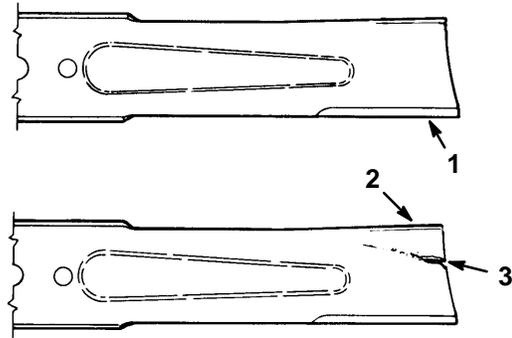

Figure 29
2. Inspect the cutting edges (Fig. 29). If the edges are not sharp or have nicks, remove the blade(s) and sharpen them; refer to Sharpening the Blade(s), page 19.
3. Inspect the blade(s), especially the curved area (Fig. 29). If you notice any damage, wear, or a slot forming in this area (Fig. 29), immediately install a new blade.